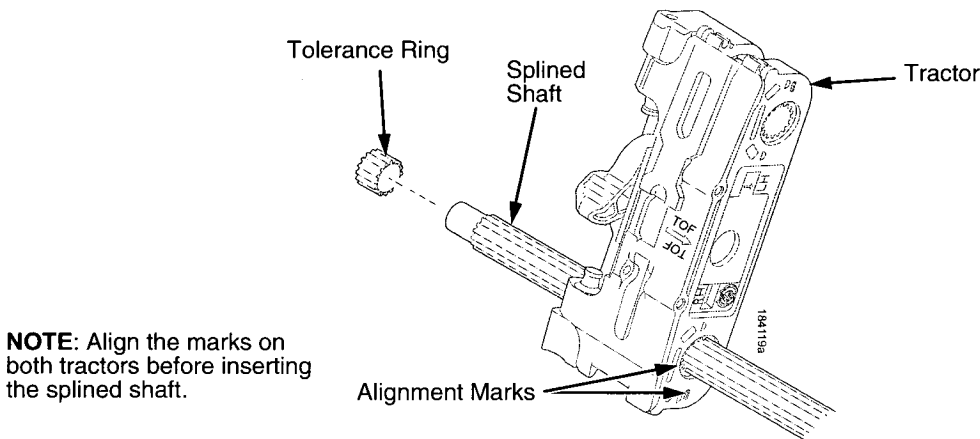

**Figure 123. Removing the Paper Leaf Guides and Tractor Assembly Support Gates**
2. Remove the center paper guide knob and center paper guide leaf. (See page 451, Figure 123.)
3. Remove the top button head screw, bottom flat head screw, and center guide leaf. (See page 451, Figure 123.)
2. Remove the left paper guide knob and the left, front paper guide leaf. (See page 451, Figure 123.)
3. Remove the top button head screw, bottom flat head screw, and left outer guide leaf. (See page 451, Figure 123.)
5. Remove the paper guide knobs and front paper guides leaves. (See Figure 123.)
7. Remove the screw securing the right tractor shaft plate and the tractor shaft plate. (See Figure 123.)
8. Slide the splined shaft out of the sealed ball bearing in the left tractor shaft plate and remove the tolerance ring from the left end of the splined shaft (page 466, items 9, 10, 15, and 17).
9. Grasp the splined shaft pulley and slide the splined shaft to the right, out of the tractors and right side plate. (See Figure 123.)
4. Insert the tolerance ring lead-in portion into the sealed ball bearing in the left tractor shaft plate while sliding the ball bearing into the right side plate (page 466, items 9, 10, 15, and 26). Push the splined shaft to the left until the flange on the ball bearing is in solid contact with the right side plate. The splined shaft will protrude about 1/16 inch (1.6mm) from the ball bearing.
5. Install the right tractor shaft plate and screw (page 466, items 7 and 8) by first sliding the upper “fingers” up and against the flange on the ball bearing, then sliding the rectangular cutout over the support shaft end, then snapping the U-shaped “spring” behind the tab on the right side plate.
7. Install the paper guide knobs and front paper guide leaves. (See page 451, Figure 123.)